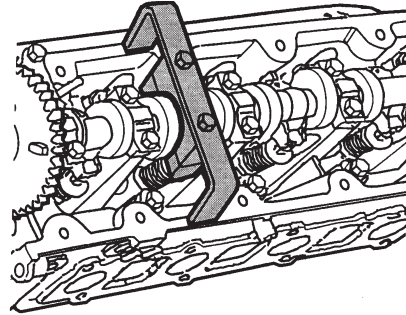

Fig 2.
3. Install the tool around the camshaft as shown in Fig 2.